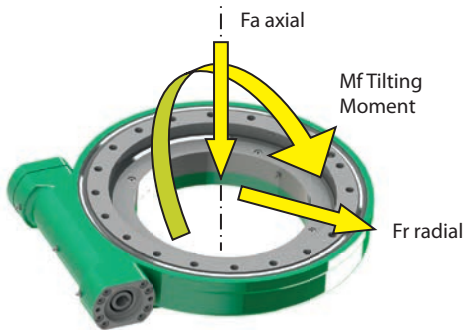

Fig. 1
- Resistance to Load conditions (see part 2 for Equivalent Load calculation and load curves under tables) - Fig. 1